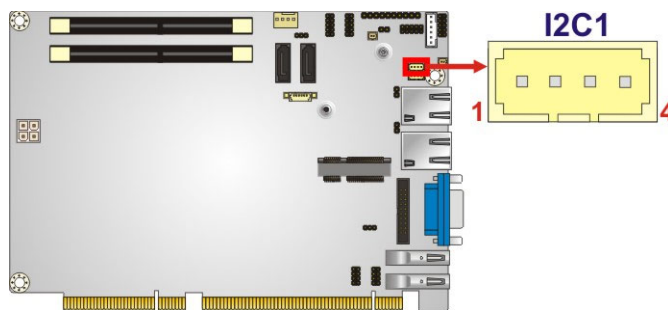

Figure 3-13: I²C Connector Location
- CN Location:** See **Figure 3-13**